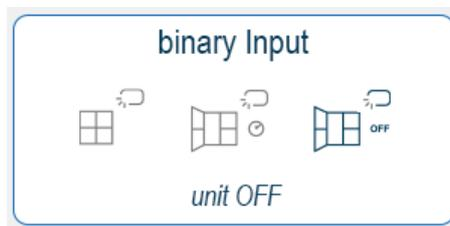

Figure 4.7 State 3 unit off.
- **State 3:** Window opened (See Figure 4.7)